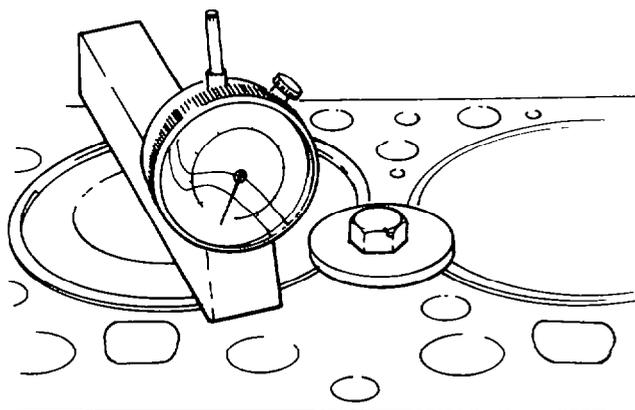

Fig. 85 — Measuring Piston Extension (Bump Clearance)
- y. Rotate the crankshaft until the piston is at T.D.C; use a dial gauge and measuring block to check the piston bump clearance; the maximum extension of the piston above the block deck must not exceed 0.508 mm (0.020 in.) (see fig. 85).